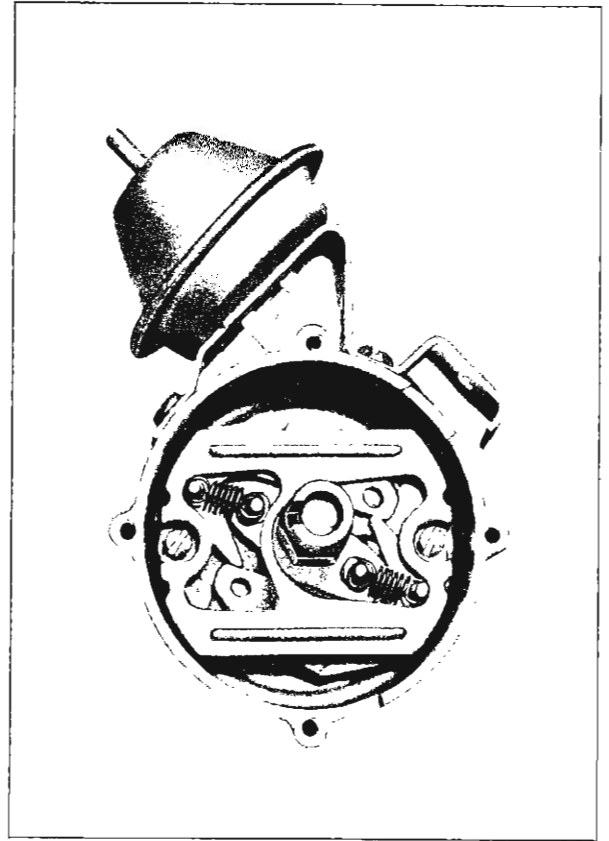

Fig. 49—Weights, Weight Cover Installed
2. Install weights on their pivot pins, replace weight springs. Install weight cover and stop plate (fig. 49).